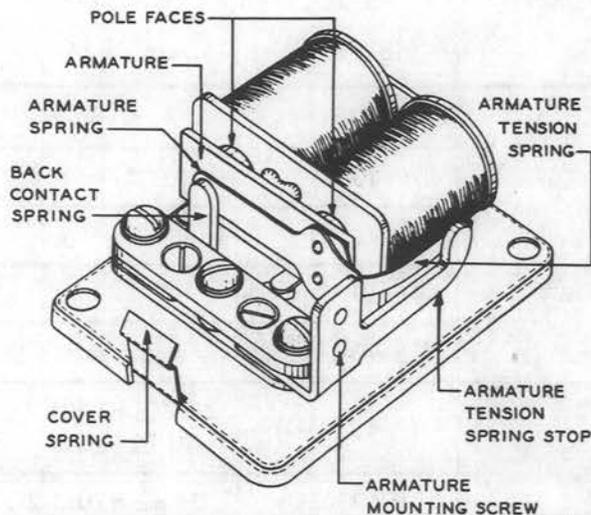

Fig. 1—7-Type Buzzer
1.04 The 7-type buzzers (Fig. 1), except for 7F, are rated Manufacture Discontinued and are replaced by the buzzers indicated in Table A. The 7F is rated A&M Only. Refer to the appropriate section in Division 501 for additional information on the 7-type buzzers and the KS-type buzzers which replace the 7 type.